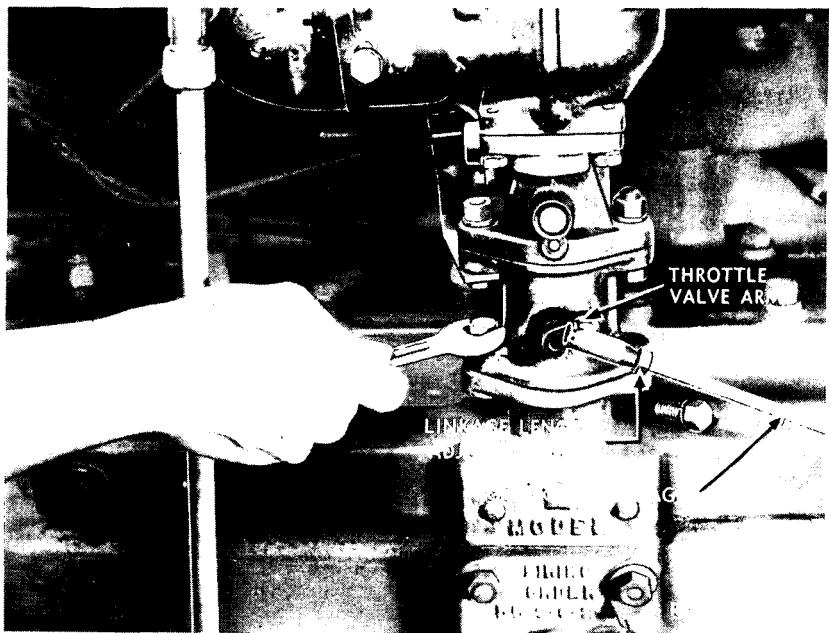
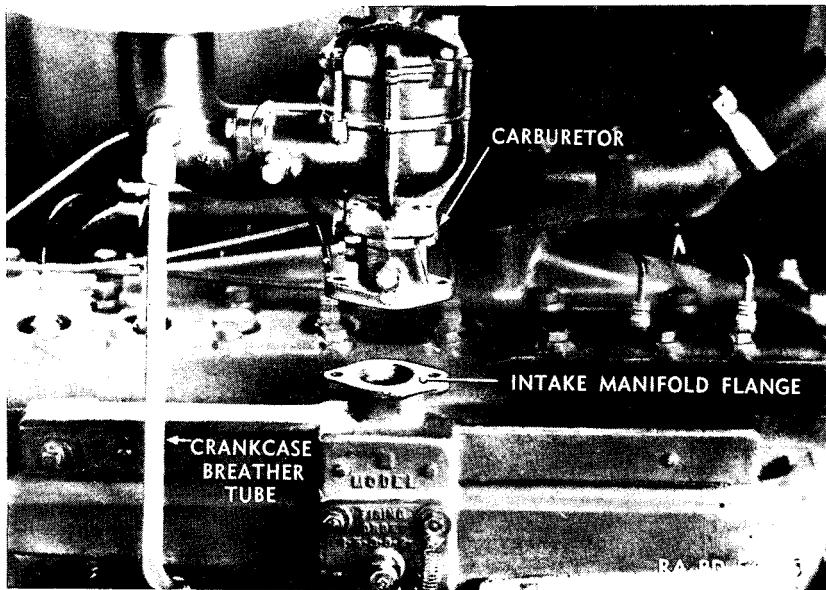

Figure 48—Throttle Box Removal
Figure 49—Throttle Box Removed
(2) **TAKE OUT THROTTLE Box** (fig. 48). Remove cap screws, lock washers, and nuts holding throttle box and gasket to bottom of carburetor. Remove screws and lock washers connecting the throttle box to intake manifold flange. Remove throttle box and gasket. Carburetor will be held up by breather pipe (fig. 49).